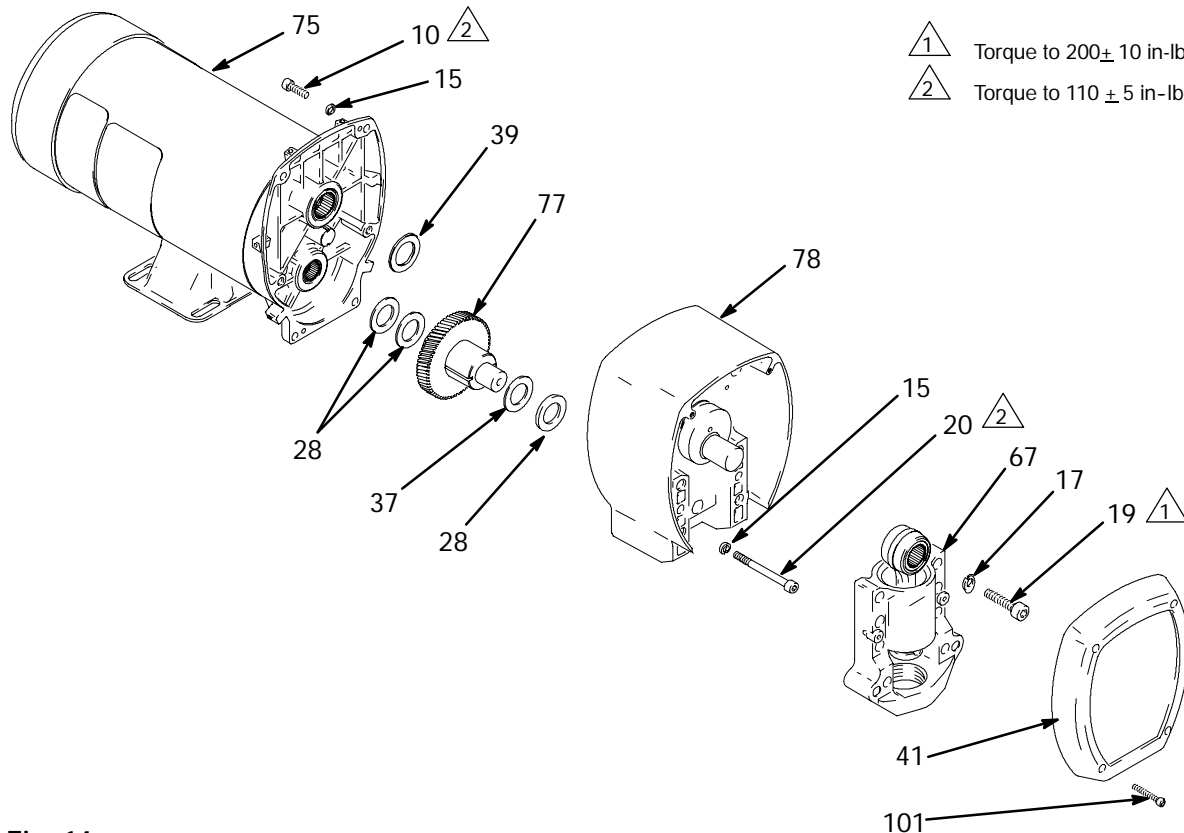

Fig. 14
Refer to Fig. 14.
5. Fig. 14. Install drive housing (78), Drive Housing Replacement, page 27.
6. Install pump (79), Displacement Pump Replacement, page 29.